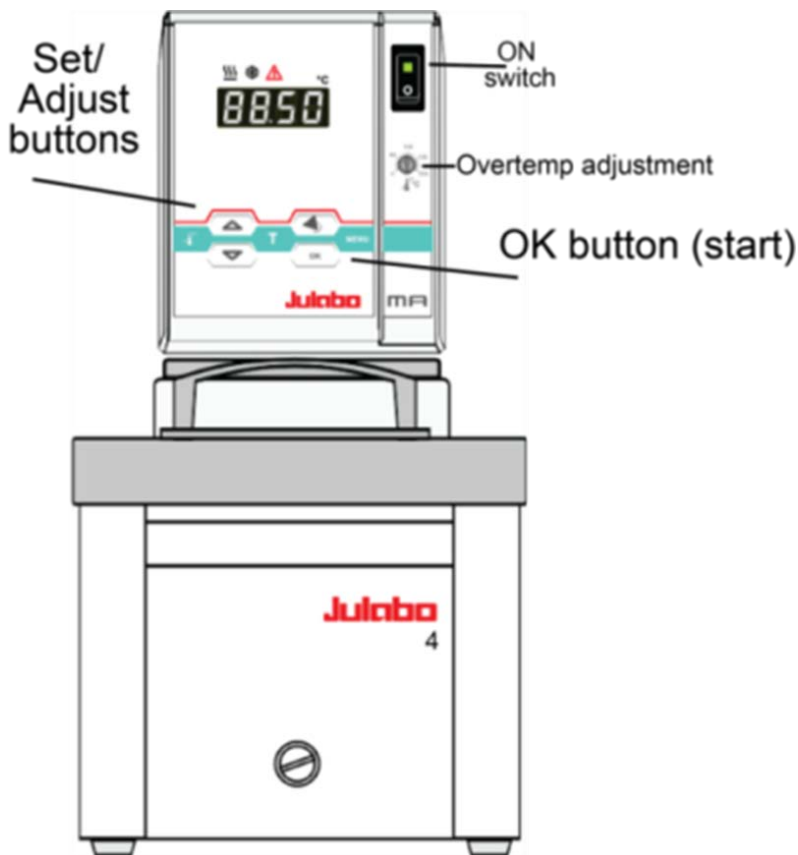

Figure 62: Julabo Display Diagram
2. Press the **OK** (start) button as shown in Figure 62.